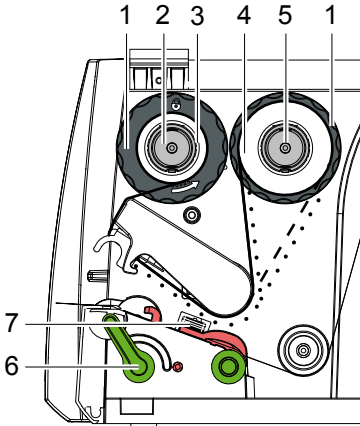
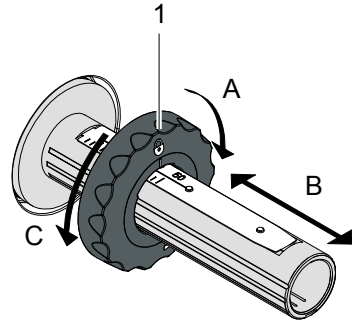

Fig. 12 Transfer Ribbon Feed Path
Fig. 13 Guide Adjustment
2. Turn lever (6) counterclockwise to open the printhead.
3. Set guide (1) on both hubs to the correct transfer ribbon width (Fig. 13):
- Hold hub and unlock guide (1) by turning it in direction A.
4. Load transfer ribbon (4) on the hub (5) until it reaches the guide in a way that the color coating of the ribbon faces the opposite side of the printhead after being loaded.
**To wind the ribbon a ribbon core (3) is needed that must be at least equal in width to the supply ribbon.**
5. Adjust position of the guide on the take-up hub to the width of the ribbon core (3) and push ribbon core on the take-up hub.
6. Guide transfer ribbon through the printing unit as shown in Fig. 12.
**Attention!****► Guide transfer ribbon over the label sensor (7).**